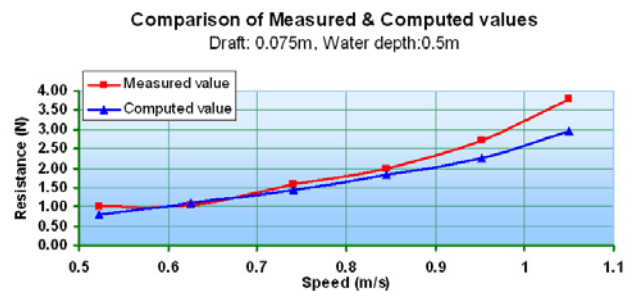

Fig.2. Comparison with computational results
The total resistance & effective power of ship are calculated. A computational geometry of same model was created and analyzed in ship design software. The experimental results matched well with the computational results at a draft of 0.075 m while solving with Hultrop method. The comparisons of two results are shown in fig.2.
2. At lower speed, computed & experimental results match well while at higher speed say 1m/s, the experimental values exceed by 29% than the computational values. (fig.2)